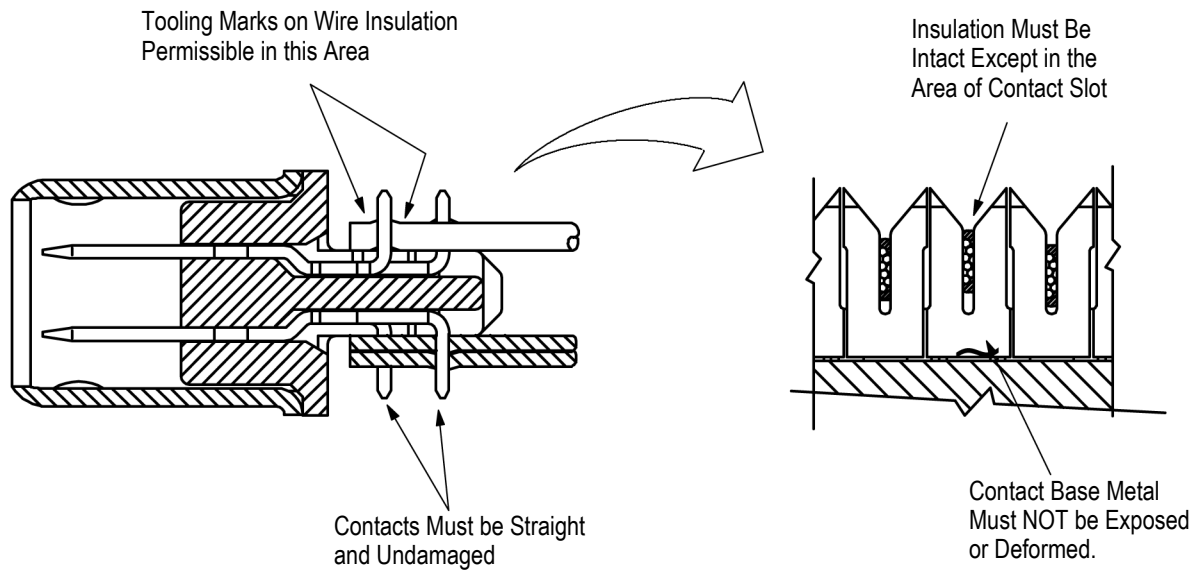

Figure 8
13. Inspect the connector for proper wire terminations. The wires should be fully inserted into the connector contacts, as shown in Figure 8.